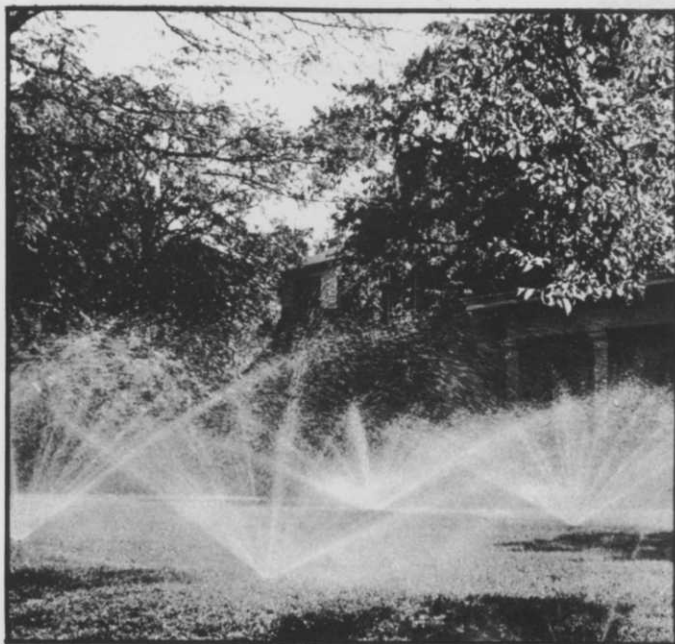

Figure 5: Stream spray nozzles should be spaced so that streams from one head overlap adjacent heads.
**Stream Sprays.** Some manufacturers offer a spray nozzle that disperses water over the rated coverage area with tiny streams. Generally, it is recommended that heads using stream nozzles be spaced so that streams from each head overlap adjacent heads. With such spacing the streams adequately "crosscross" to provide coverage between the streams. See Figure 5.